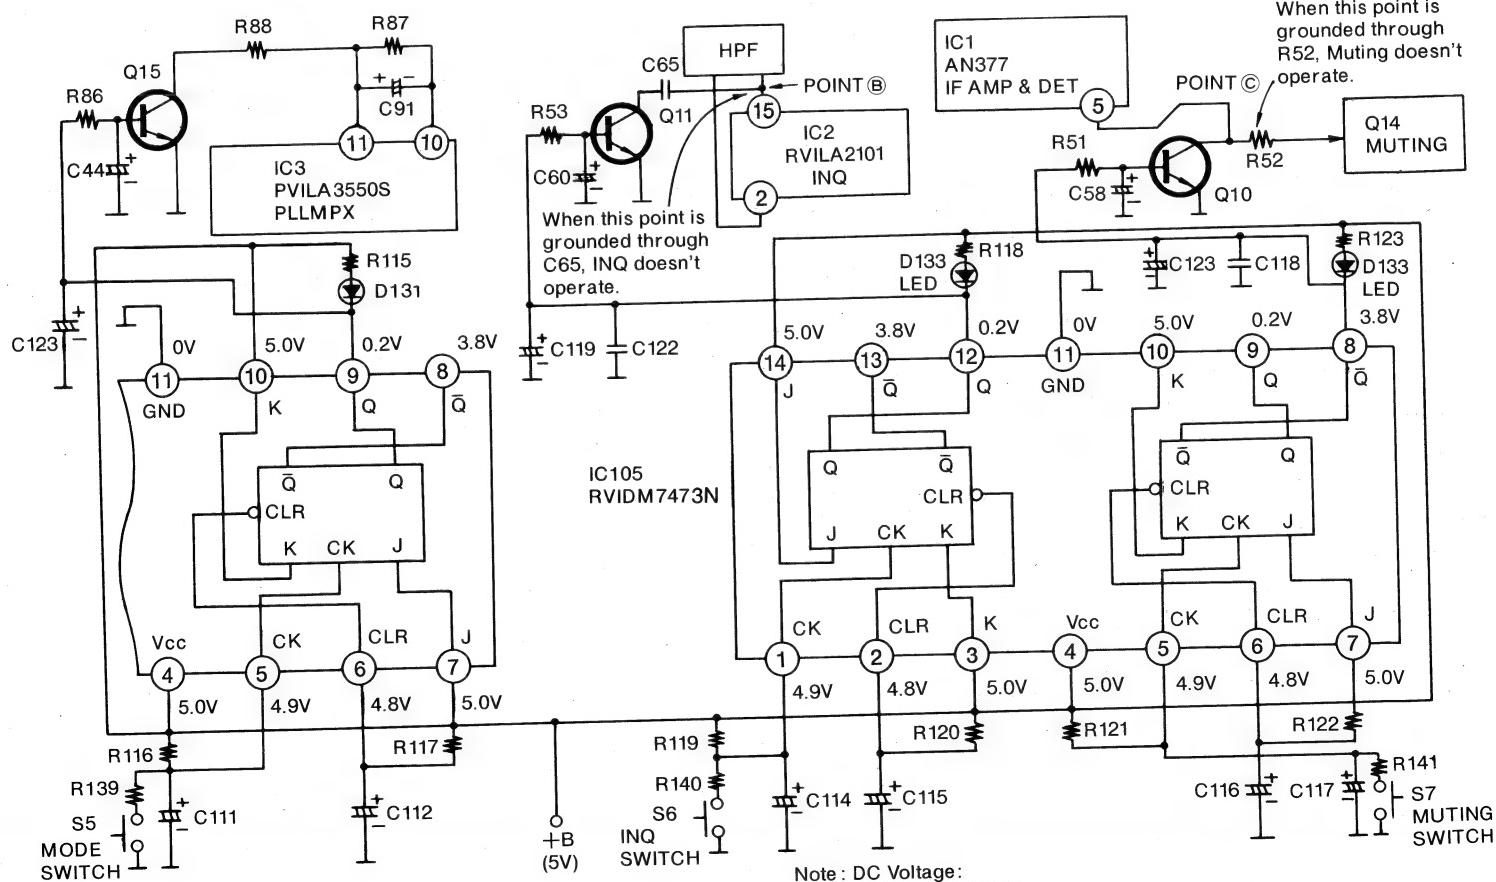

Fig. 18
4. When Q11 switches ON, and a noise pulse appears at point ⑧ Fig 18, the pulse is grounded through C65. In this condition, IC2 will not operate the INQ. In other words, the INQ changes to the OFF condition. (Refer to the operation explanation of the INQ.)